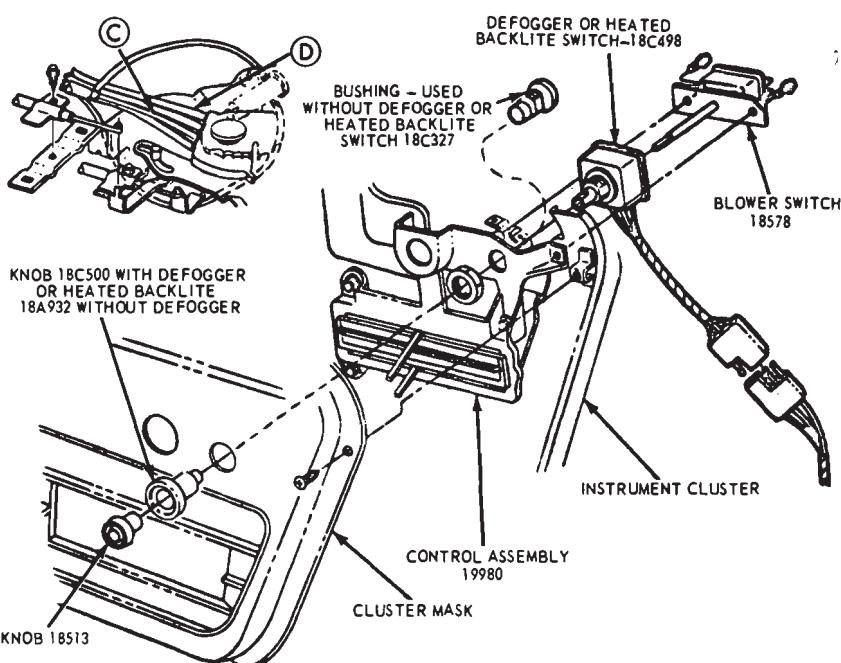

FIG. 39—Heater-A/C Control Assembly—Ford and Meteor
5. Disconnect the defogger switch wires at the multiple connector if equipped with a defogger (Fig. 39).
5. Connect the temperature blend door (5) control cable to the heater-A/C control assembly (Figs. 39 and 40).
10. Connect the battery ground cable and adjust the temperature blend door (5) control cable at the turnbuckle.